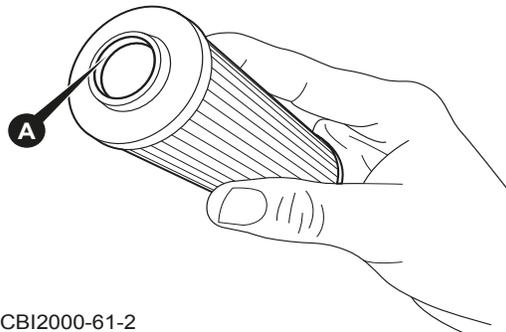

Figure 6.58 - Install Filter Element
6. Install New Element - Install the new filter element onto the housing. Make sure to lubricate the filters seal with hydraulic oil prior to installing it (Figure 6.58 / A).